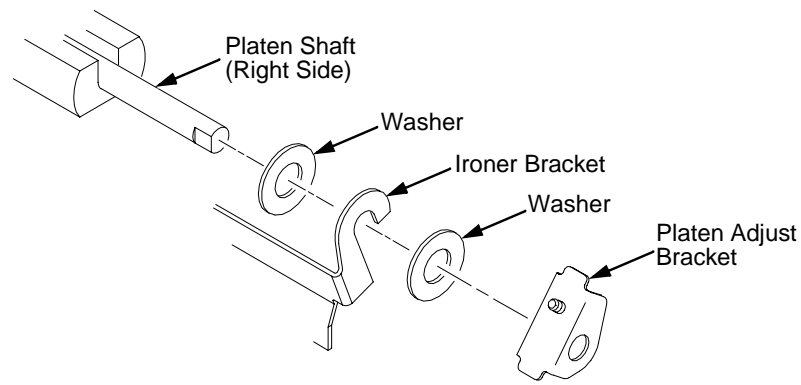

Figure 36. Installing the Platen Adjust Bracket
2. Install two washers on the longer (right) platen shaft. (See Figure 36.)
8. Insert the shorter platen shaft through the left adjust bracket and through the opening in the left side plate. Rotate the longer shaft into the opening in the right side plate and position the adjustment brackets as shown in Figure 36.
14. Install the paper ironer bracket. (See Figure 36, page 232):
For the right side of the platen, a washer goes on both sides of the paper ironer hook and the hook goes to the left of the right platen adjustment bracket. (See Figure 36, page 232.)